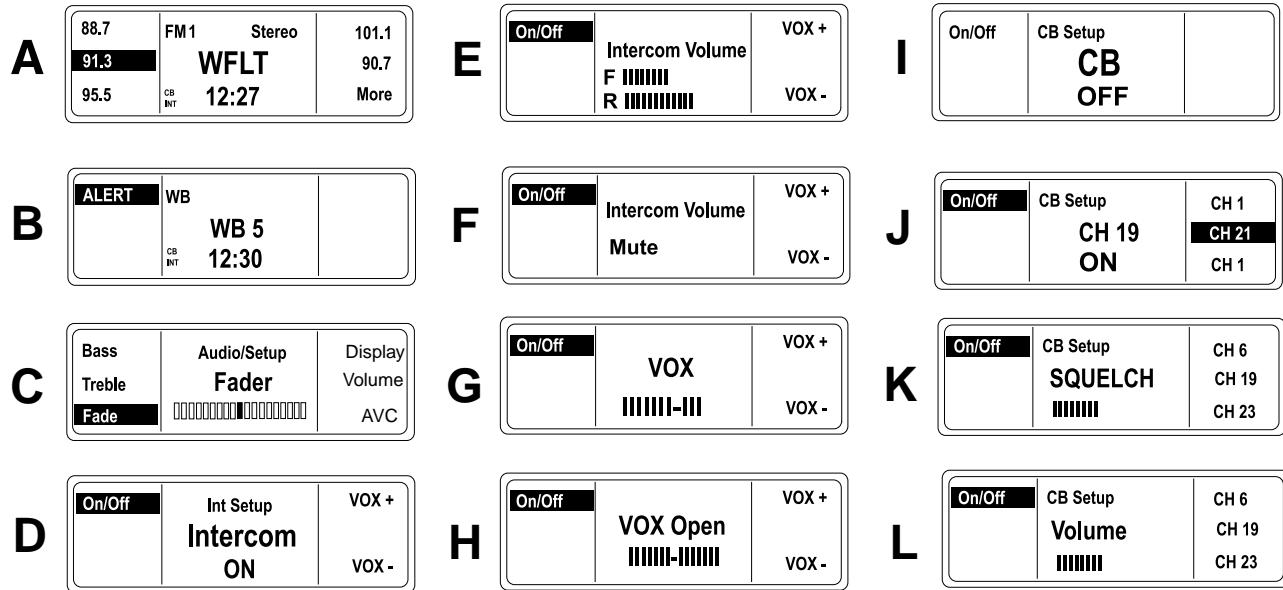

Figure 32. Display Examples
See E in Figure 32. When the rear headset volume is adjusted, a F (front) and R (rear) bar graph appear in the LCD display.
See D in Figure 32. To activate the intercom (INT) and the VOX microphones, press soft key **1** to turn the intercom ON.
See G in Figure 32. Press the **MODE SEL** switch **UP** or **DN** or press the **4** or **5** soft key to initiate the VOX display. The LCD displays VOX sensitivity as a bar graph with a smaller bar to indicate the center of the 14 bars. A higher number of bars indicates greater sensitivity while a lower number means less sensitivity.
See E in Figure 32. Enter Intercom Setup, speak into microphone and adjust the intercom volume with the **AUDIO** switch on the left hand grip. Press **AUDIO +** to raise the volume and **AUDIO -** to lower the volume. The LCD displays a dashed line that changes length with the level.
See F in Figure 32 When the headset volume has been adjusted to the bottom of its range, Mute will appear in the volume display.
See F in Figure 32. When the headset volume has been adjusted to the bottom of its range, Mute will appear in the volume display.
See H and I in Figure 32. To activate the Citizen Band transceiver, press and release the **COM** pushbutton on the front panel. Press soft key **1** to turn the CB ON/OFF. The CB will activate in CB Setup with squelch threshold and channel settings from the previous use. CB channels are selected in CB Setup.
See J in Figure 32. With the CB on, press **COM** to enter CB Setup. The LCD displays CB SETUP in the upper half and the CB channel appears in the lower half.
See K in Figure 32. When squelch is broken, the CB in the display inverts. If the squelch is not broken and the another source is playing, CB is displayed.
See J in Figure 32. Up to 3 CB channels can be preset. Press and hold a soft key (4, 5, 6) to preset a CB channel.
See K in Figure 32. The CB signal is passed to the speakers or headsets only if signal strength exceeds the threshold set with the squelch control switch (**PTT/+SQ/-**). When CB signals exceed the threshold, they are said to "break squelch." Refer to Table 19.
Refer to Table 20. See L in Figure 32. To adjust volume of the CB in the speakers or headset, Press **AUDIO +** to raise the volume or **-**lower the volume. CB volume is adjustable when squelch is broken or when the display is in CB Setup.